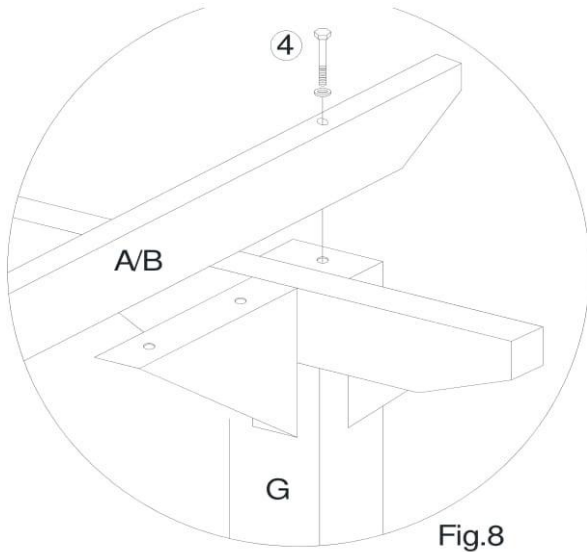

Fig.8
Attach the Outer Crossbars(A/B) to Main Pillars(G) using Bolts(4) with Wrench(5). (See Fig. 8)